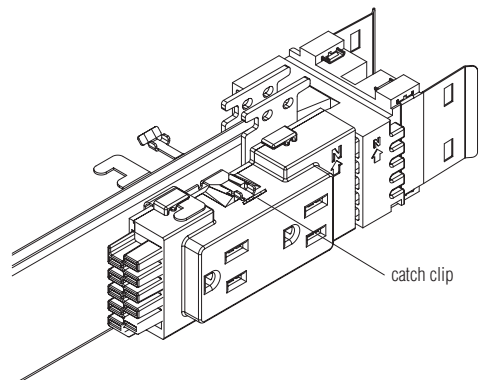

FIG. 3
5. Receptacle is properly seated when the catch clip on the wireway is between the wedges on the receptacle (Figure 3).
1. Slightly lift the catch clips on the top and bottom of the receptacle (Figure 3) and slide the receptacle away from the socket on the wireway.